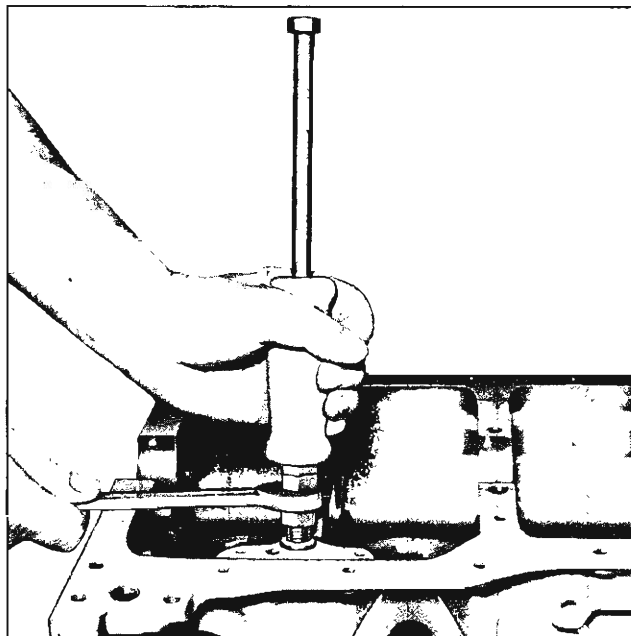

Fig. 66—Removing Distributor Lower Bushing
1. Install Tool J-9534 into bushing and using a slide hammer, remove the bushing (fig. 66).